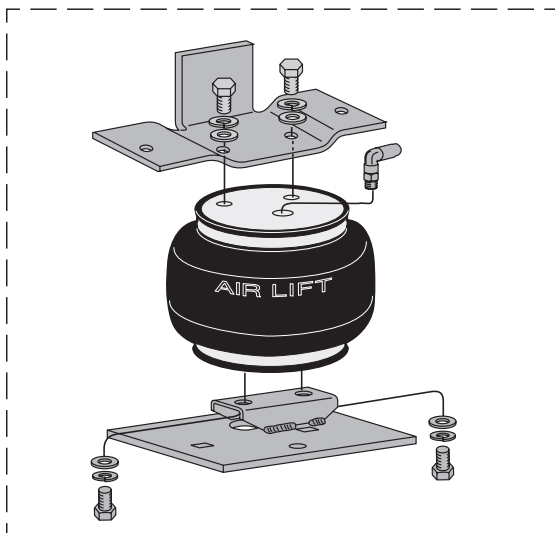

fig. 1
- Set a roll plate (E) on both ends of the double convolute bellow (Fig. 1). **Kit 57128 with the single convolute bellow does not require roll plates.**
- Attach the lower bracket to the bellow using two bolts (H), two lock washers (I), and two flat washers (J) (Fig. 1).
- Attach the upper bracket (B) to the bellow using two bolts (H), two lock washers (I), and two flat washers (J). Be sure that the tall vertical leg of the upper bracket is opposite of the air fitting port (Fig. 1).